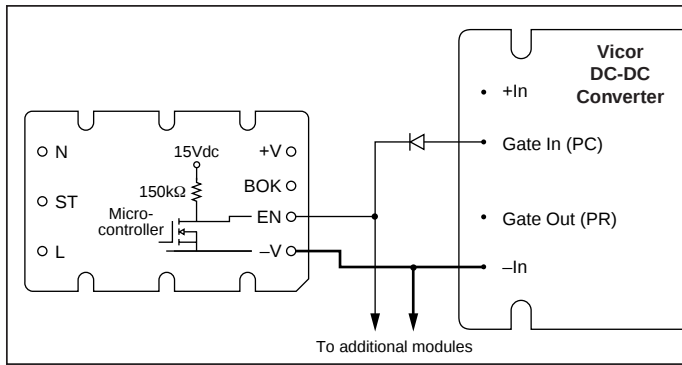

Figure 9—Enable (EN) function; See Fig.8 for details
Enable (EN) Pin. (See Fig. 9). The Enable pin must be connected to the Gate-In or PC pin of all converter modules to disable the converters during power-up. Otherwise, the converters would attempt to start while the holdup capacitors were being charged through an unbypassed thermistor, preventing the bus voltage from reaching the thermistor bypass threshold thus disabling the power supply. The Enable output (the drain of an N channel MOSFET) is internally pulled up to 15V through a 150kΩ resistor.